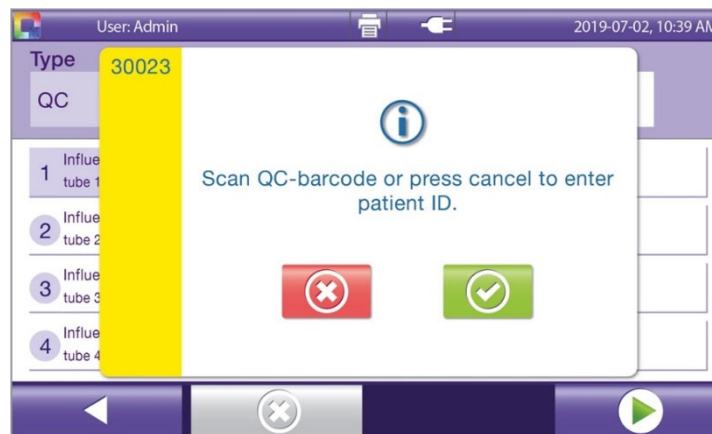

Figure 44
- An instruction to scan the QC barcode is displayed (Figure 44).
- An instruction to scan the QC barcode is displayed (**Figure 44**). **Note:** QC sample IDs are entered using a barcode scanner only.